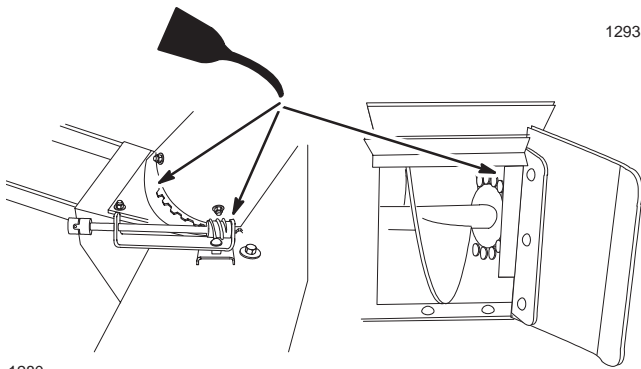

Figure 31
- Coat the entire chain with oil and allow it to penetrate each roller (fig. 31).
- Place a few drops of oil on the discharge chute rotator shaft and discharge chute mounting (fig. 31).